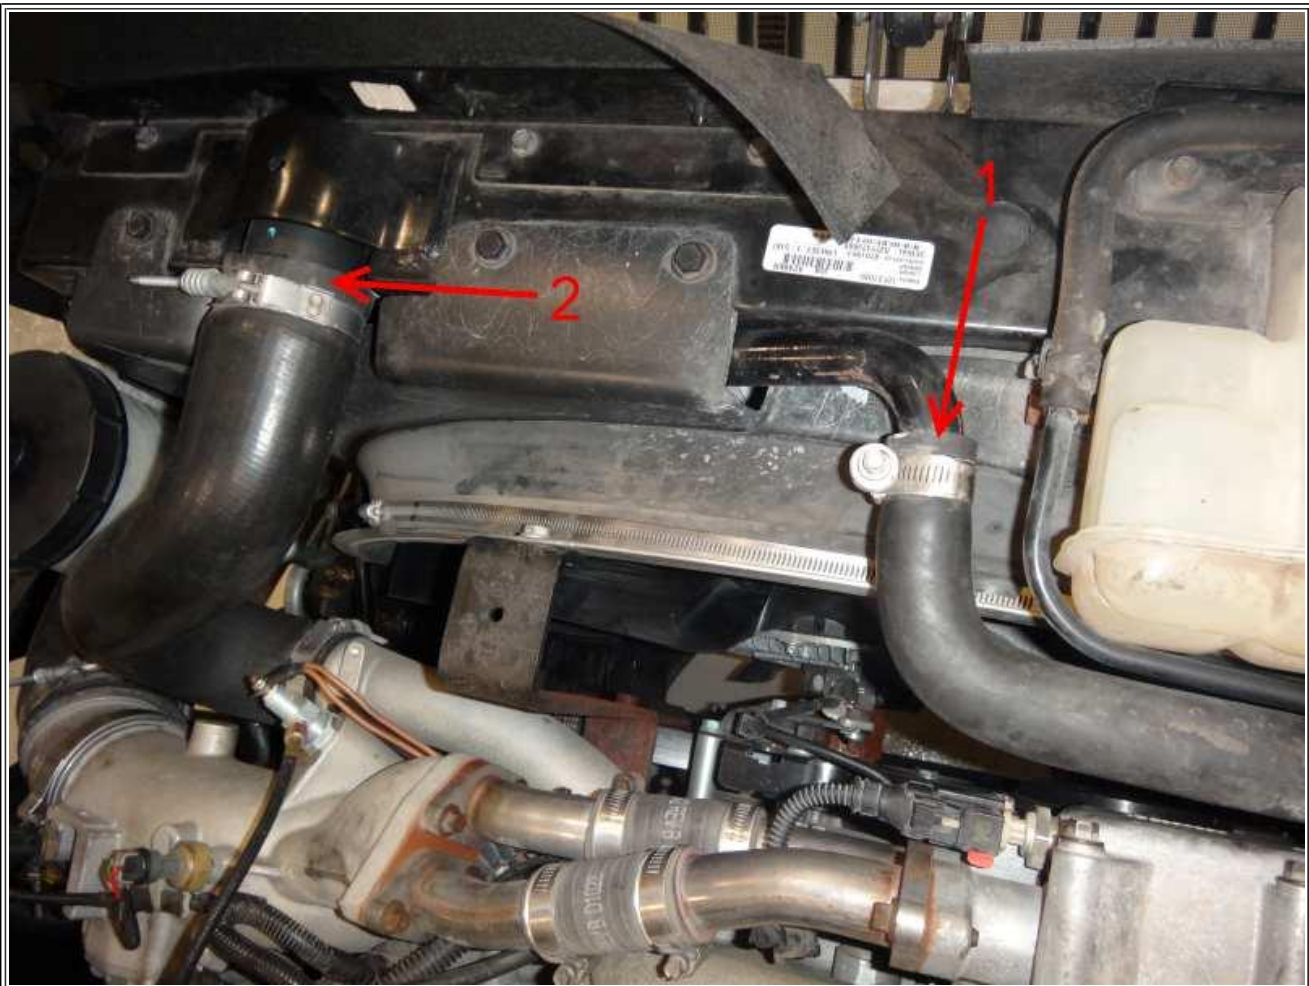

Figure 2: Top of Radiator
3. Remove the Low Temp Radiator (LTR) hose (**Figure 2**, Item 1).
4. Remove the Radiator hose (**Figure 2**, Item 2)